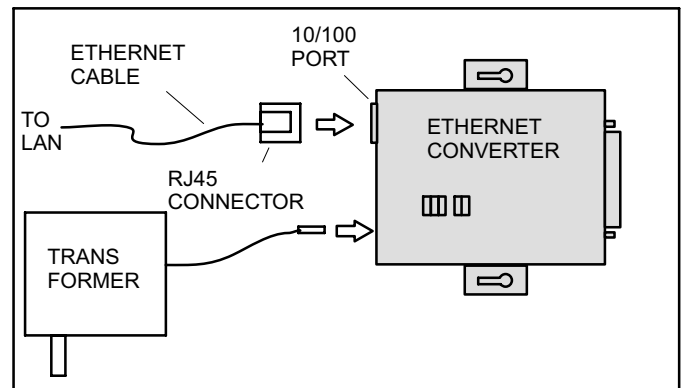

Figure 2. Check for IP Address on DHCP Networks
Each ethernet converter must be assigned a unique IP address. On networks which use DHCP, an automatic method for assigning addresses, connect the ethernet cable and transformer to the converter (see figure 2).
1. Connect the ethernet cable and transformer as shown in figure 2. Use a 25 to 9-pin serial cable to connect the converter to a PC serial com port. See figure 3.